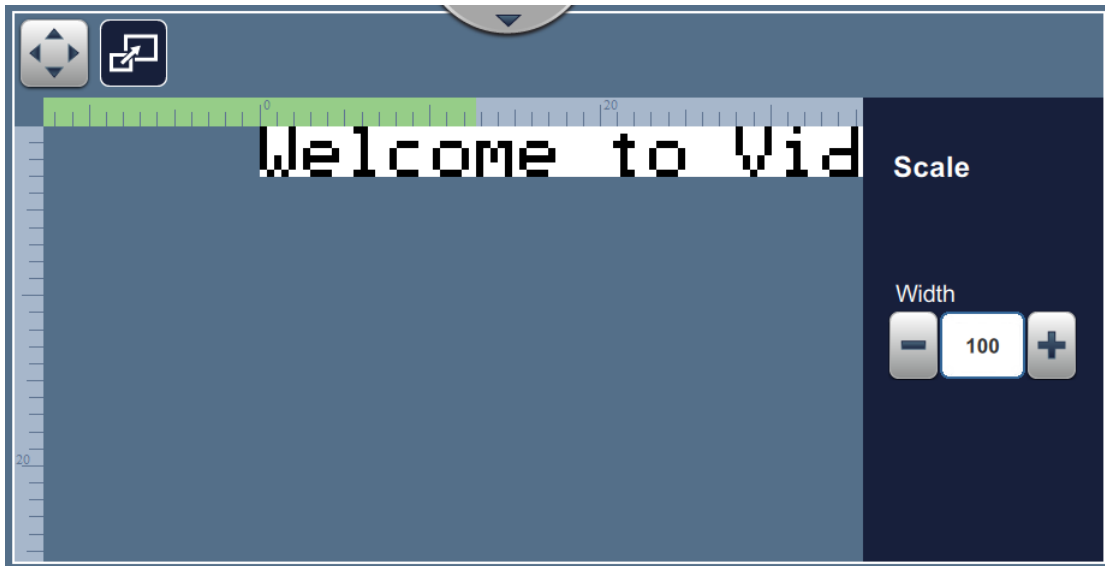

Figure 4-10: Adjust_Scale
1. Touch the  button and the current scale divider value appears as shown in Figure 4-10.